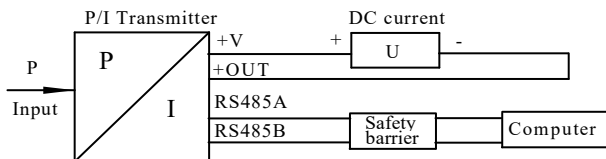

Fig. 8
- b) The electric connection method of transmitter only with RS485 communication to see Figure 8: